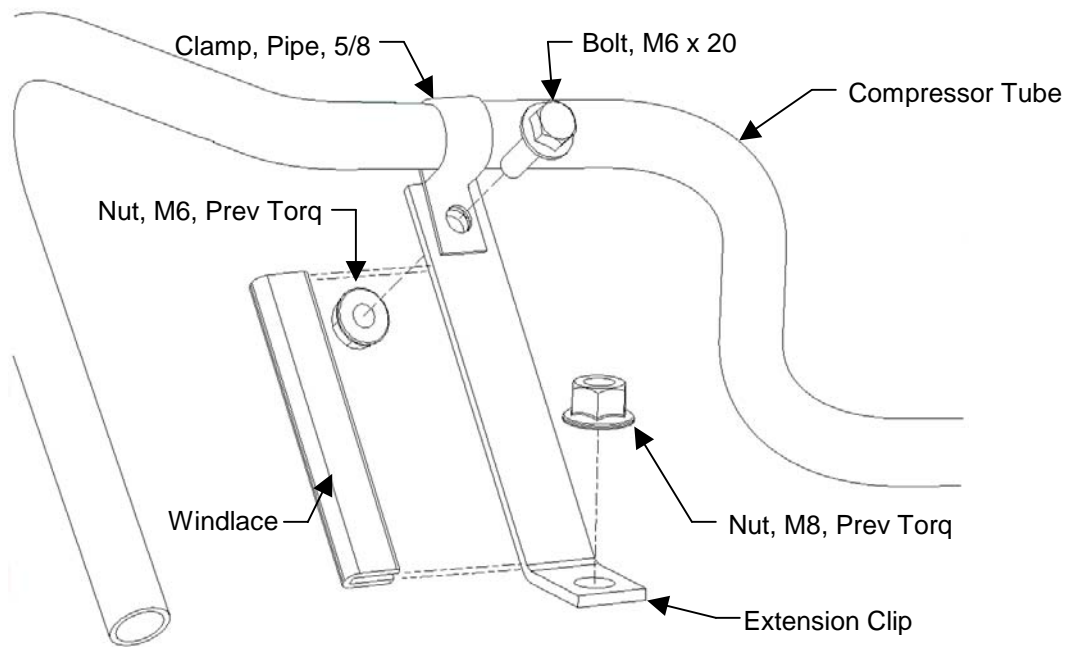

Figure 2
4. If the vehicle **DOES** contain the clamp as shown above, then check for windlace. (See Figure 2)
10. Assemble the clamp as shown in Figure 2.